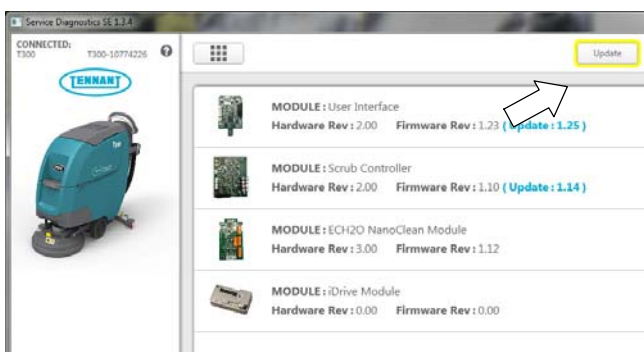

Fig. 5
6. Once connected, the home screen will appear (Figure 5). Before programming the new drive module, first check if any firmware updates are required. The "Firmware" button will be highlighted in yellow if updates are required. Press button to update firmware (Figure 5).